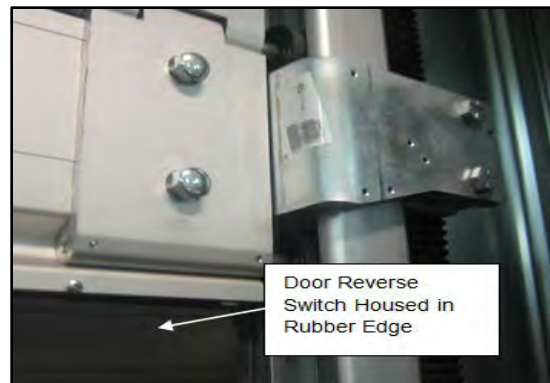

Figure 14
3. While the door is closing, hit the rubber reversing edge that runs along the bottom edge of the door. Stand outside the photo eyes to avoid activating the photo eye circuit. (See Figure 14.)